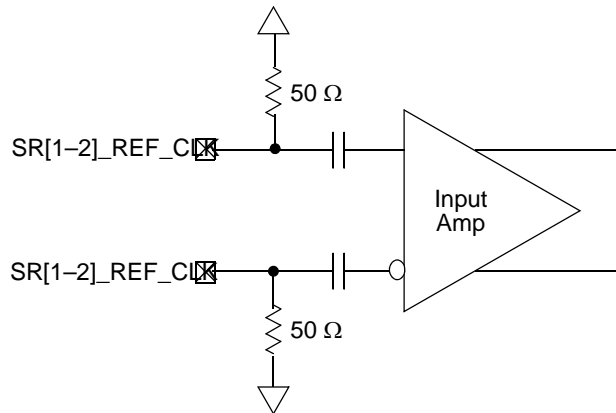

Figure 5. Receiver of SerDes Reference Clocks
The SerDes reference clock inputs are applied to an internal PLL whose output creates the clock used by the corresponding SerDes lanes. The SerDes reference clock inputs are $\text{SR1_REF_CLK}/\overline{\text{SR1_REF_CLK}}$ or $\text{SR2_REF_CLK}/\overline{\text{SR2_REF_CLK}}$. Figure 5 shows a receiver reference diagram of the SerDes reference clocks.
- The $\text{SR}[1-2]_{\text{REF_CLK}}$ and $\overline{\text{SR}[1-2]_{\text{REF_CLK}}}$ are internally AC-coupled differential inputs as shown in Figure 5. Each differential clock input ($\text{SR}[1-2]_{\text{REF_CLK}}$ or $\overline{\text{SR}[1-2]_{\text{REF_CLK}}}$) has on-chip 50- Ω termination to GND_{SC} followed by on-chip AC-coupling.